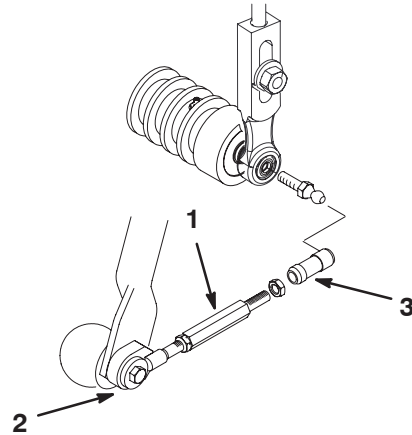

Figure 19
- Slide the sleeve back on each ball joint receiver and hook the receiver onto the cutting unit ball stud (Fig. 19).